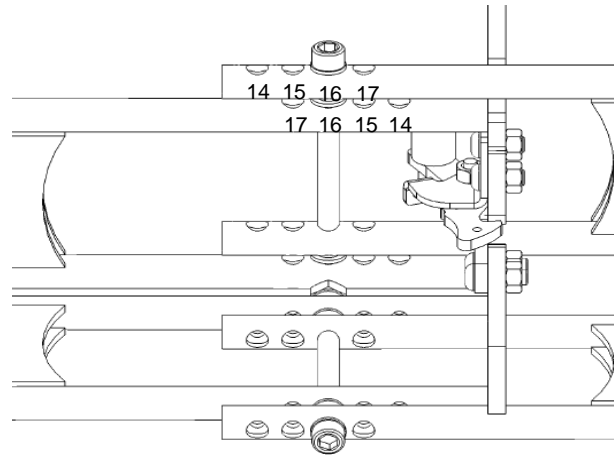

Fig. 12
- b. Insert the pivot bolt through the desired chair width pivot location as indicated by the numbers printed on left and right sides of the folding links (Match the corresponding number on the left side with the right side links – see Figure 12).